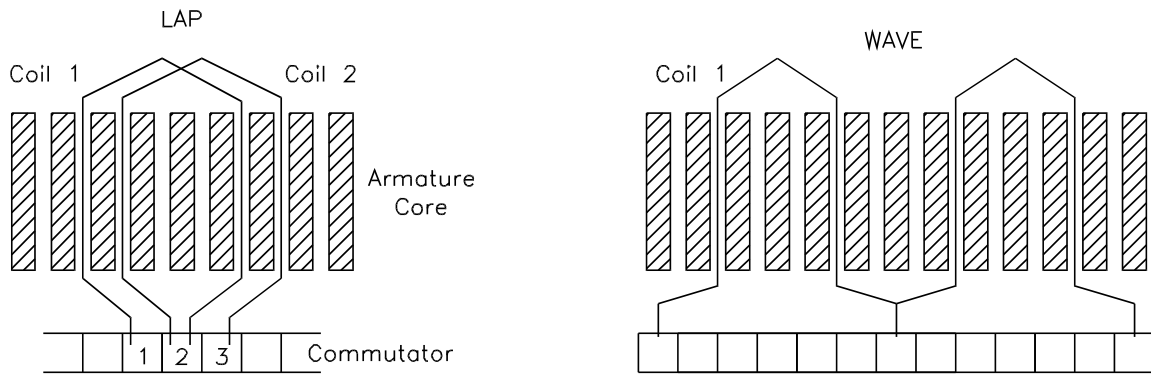

Figure 38. Lap and wave windings
3. The main component parts of a four pole d.c machine are shown in Figure 38.